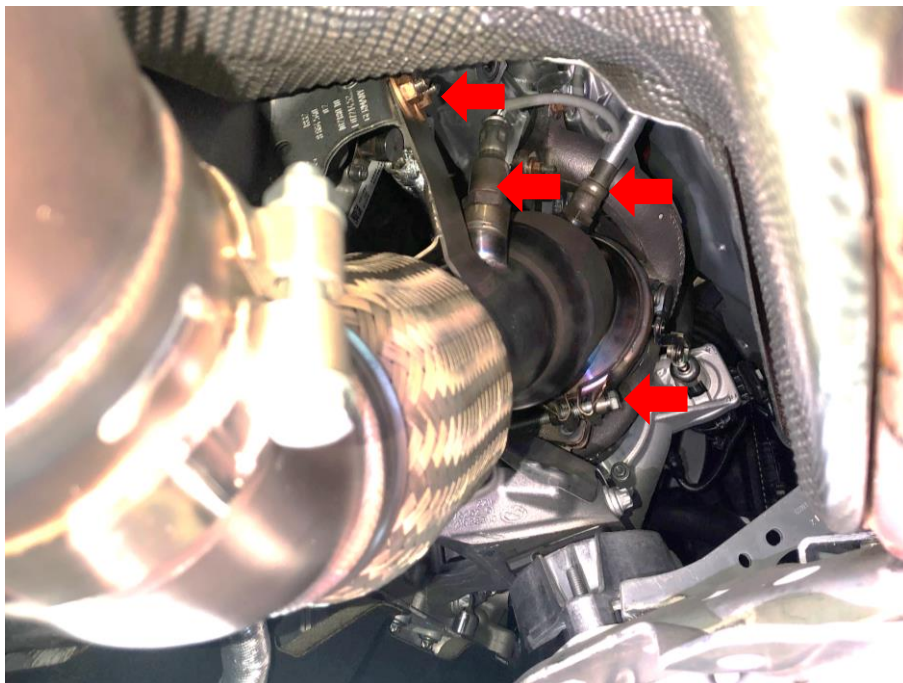

Fig. 5
1. Install the iPE cat pipe and lock the retainer clamps, bushes screw, front and rear oxygen sensor. (Fig5)